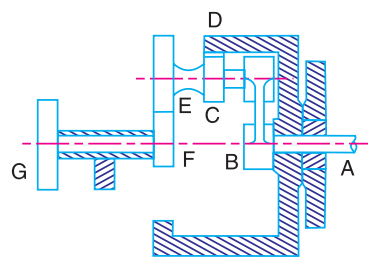

Fig. 13.38
9. An epicyclic reduction gear, as shown in Fig. 13.38, has a shaft  $A$  fixed to arm  $B$ . The arm  $B$  has a pin fixed to its outer end and two gears  $C$  and  $E$  which are rigidly fixed, revolve on this pin. Gear  $C$  meshes with annular wheel  $D$  and gear  $E$  with pinion  $F$ .  $G$  is the driver pulley and  $D$  is kept stationary. The number of teeth are :  $D = 80$  ;  $C = 10$  ;  $E = 24$  and  $F = 18$ .